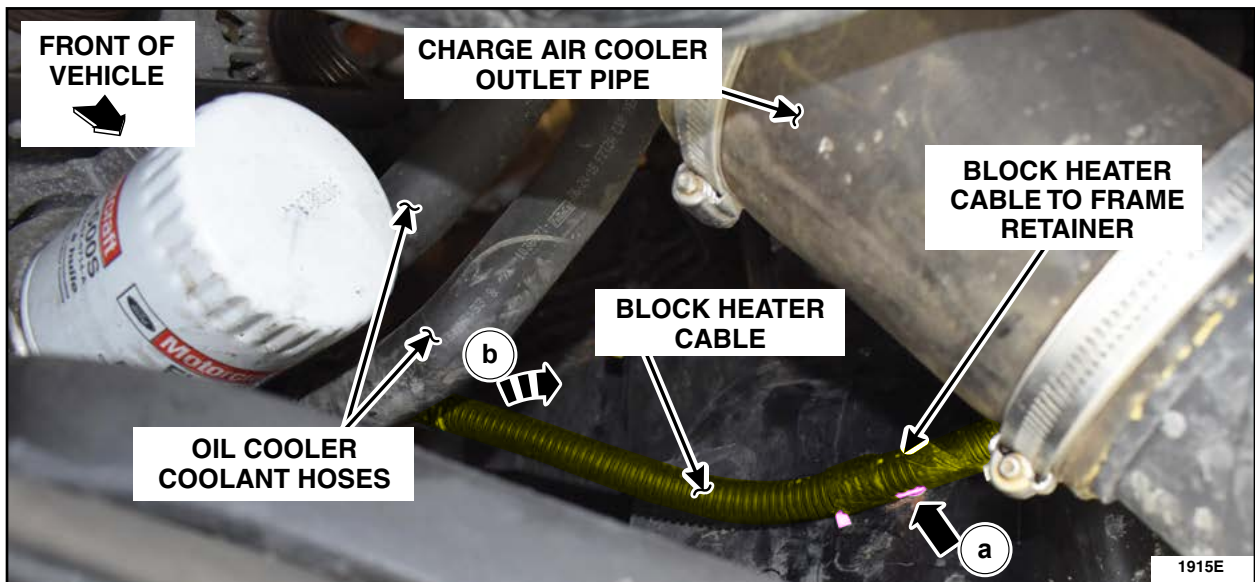

FIGURE 8
8. Release the block heater cable to frame retainer (a). Then, route the block heater cable over the LH motor mount toward the front of the vehicle (b). See Figure 8.
24. Route the block heater cable toward the inboard side of the left front frame rail and over the LH engine mount toward the block heater element. Then, attach the block heater cable to frame retainer. See Figure 8.